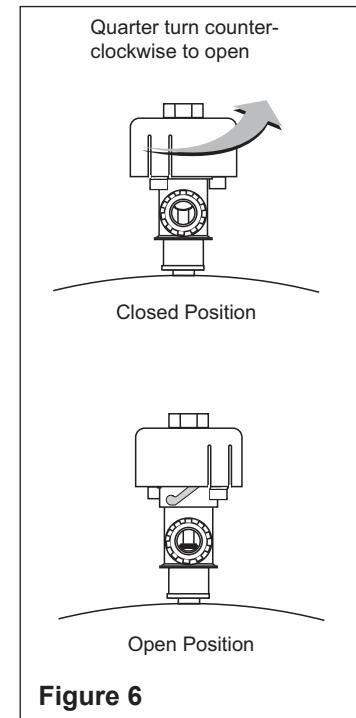

Figure 6
2. Open the High Flow™ Manual Air Relief Valve by turning the valve cover assembly a quarter turn counter-clockwise, until it snaps into the full open position. See **Figure 6**.
2. Remove the compression spring and spring adapter by pulling them straight up. Once the spring and spring adapter have been removed, separate the top manifold from the filter cartridges and lay the manifold to the side. See **Figure 6**.